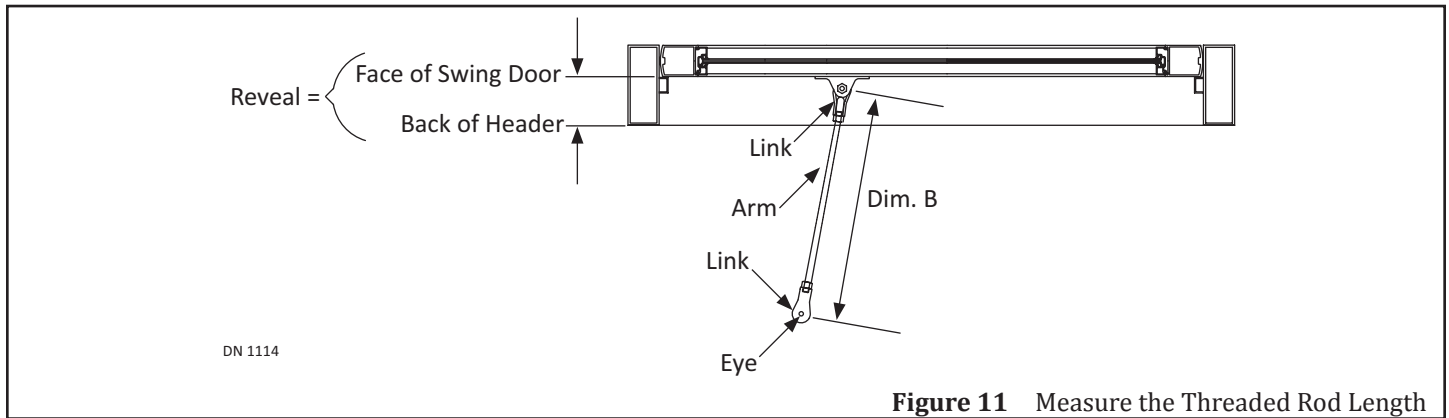

Figure 11 Measure the Threaded Rod Length
3. Measure the Threaded Rod between the center of each Eye, located on each Link, located at each end of the Rod. Please see Dim B in Figure 11.